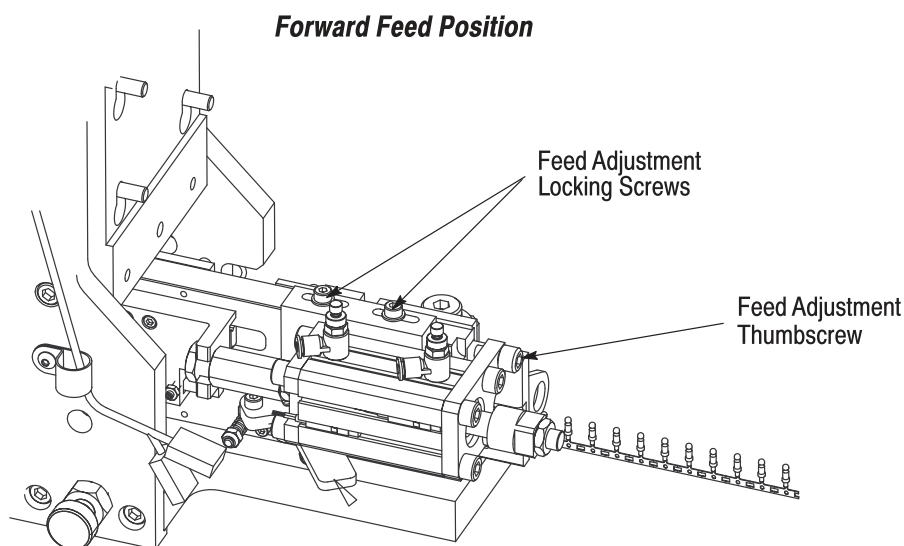

Figure 13
5.2. Checking and Adjusting the Forward Feed Position (See Figure 13)
8. To adjust the feed position, loosen the two feed adjustment locking screws and turn the feed adjustment thumbscrew clockwise to move the terminal strip *forward* (if the terminals were underfed), or counterclockwise to move the terminals *to the rear* (if the terminals were overfed). Refer to Figure 13.